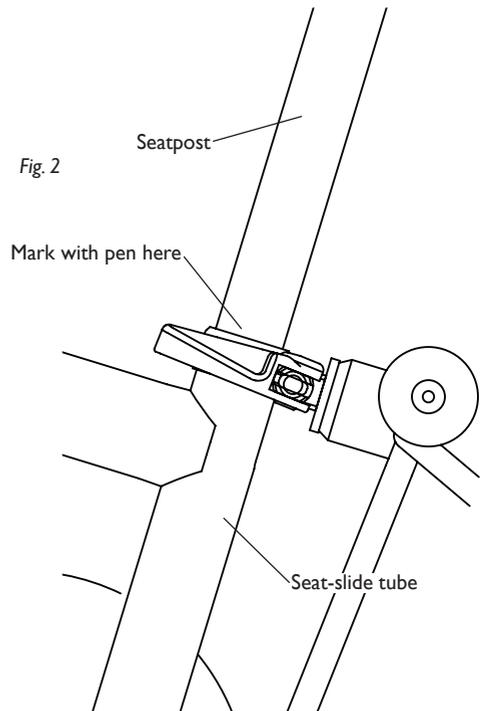

Fig. 2
- Once you are happy with the saddle height, mark the seatpost with a marker pen or tape at the top of the seat-slide tube (fig. 2)